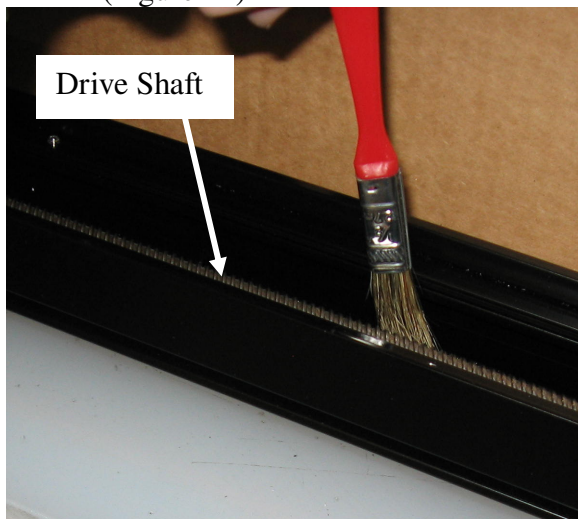

Figure 20
- 6) Inspect the area underneath the drive shaft and in particular the surface that the cam blocks contact. Clean these surfaces as well (Figure 20)